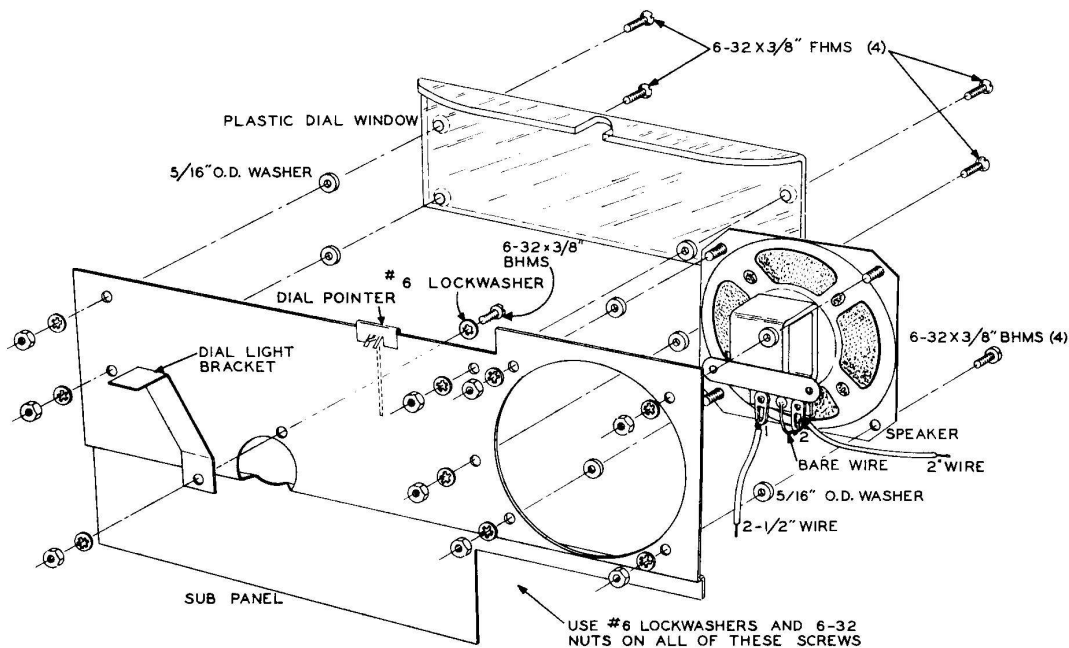

Figure 3N
Refer to Figure 3N for the following steps.
- (✓) Place the dial pointer in position over the top edge of the subpanel. The pointer itself should be on the front (black) side of the subpanel as shown in Figure 3N.
- (✓) Install the speaker in position on the sub-panel as shown in Figure 3N (make sure that the speaker wires also pass through the speaker mounting hole). Use 6-32 x 3/8" BHMS, #6 lockwashers, and 6-32 nuts. Place a 5/16" OD washer on each screw between the speaker and the subpanel as shown in Figure 3N.